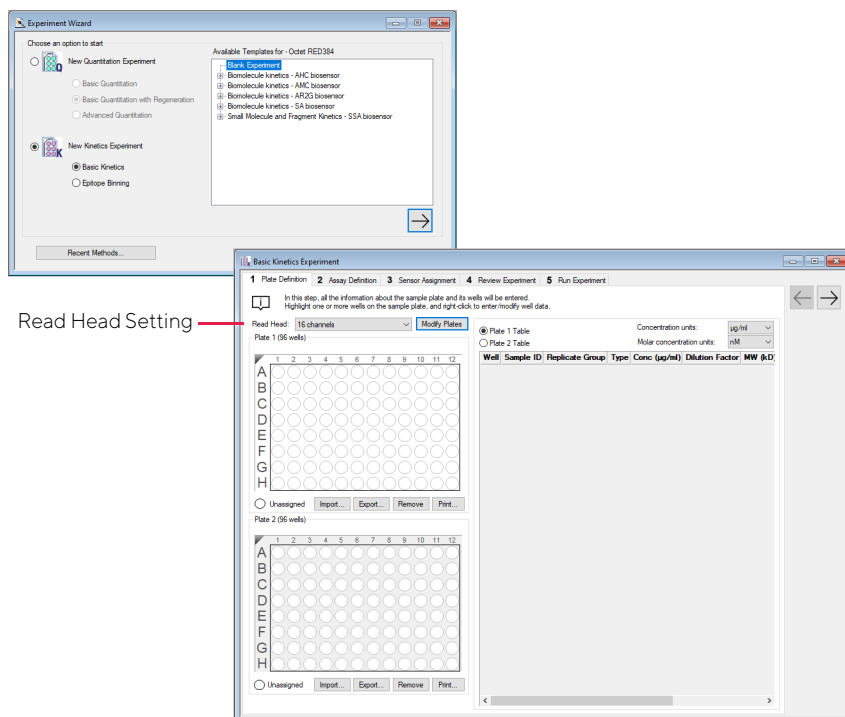

Figure 10-1: Starting a Kinetics Experiment with the Experiment Wizard
2. In the **Experiment Wizard**, click **New Kinetics Experiment** (see Figure 10-1, left).
4. Click the arrow button . The **Basic Kinetics Experiment** window displays (Figure 10-1, right).